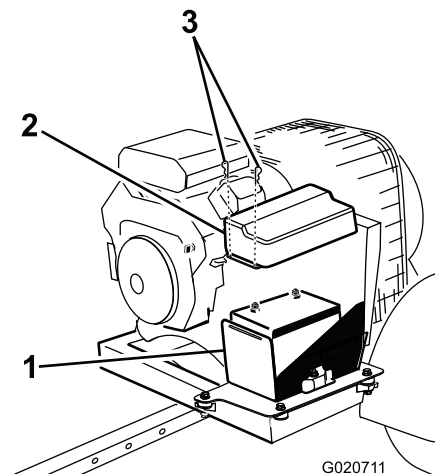

Figure 3
1. Remove the clips securing the battery cover to the battery box (Figure 3). Remove the cover from the box.